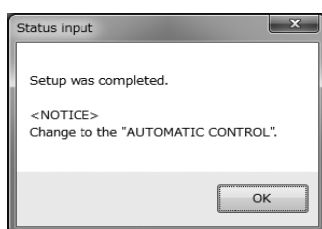

Fig.57
- ⑦ Click "OK" to change the settings to the selected values, and then click the "OK" button in the displayed message box (Fig. 57) to complete the setting process.